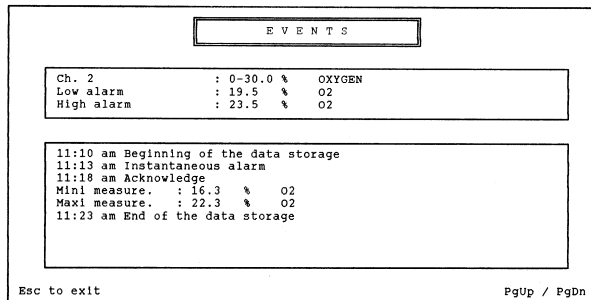

Figure 2-24A: Data Readout, Chart
- If the data storage time is less than 15 minutes, the data is presented in the form of charts, as in Figure 2-24A.